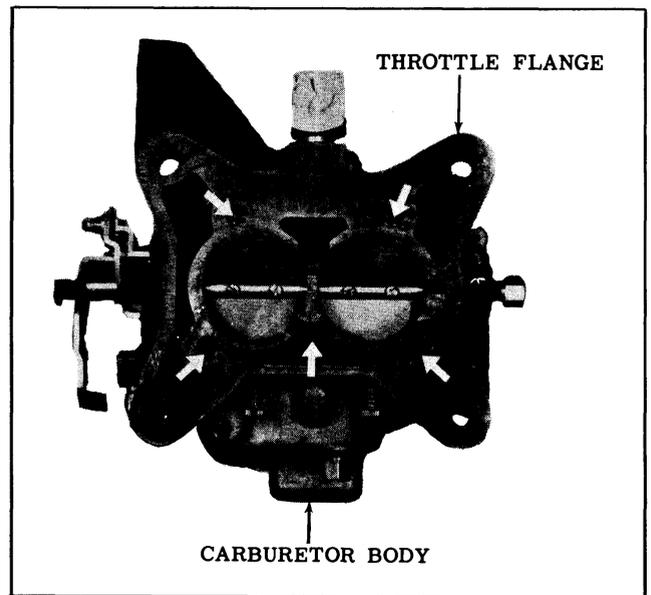

Fig. 8-130 Throttle Body Attaching Screws
5. Invert carburetor and remove the bowl to throttle body attaching screws. (See Fig. 8-130) Remove throttle flange and gasket.